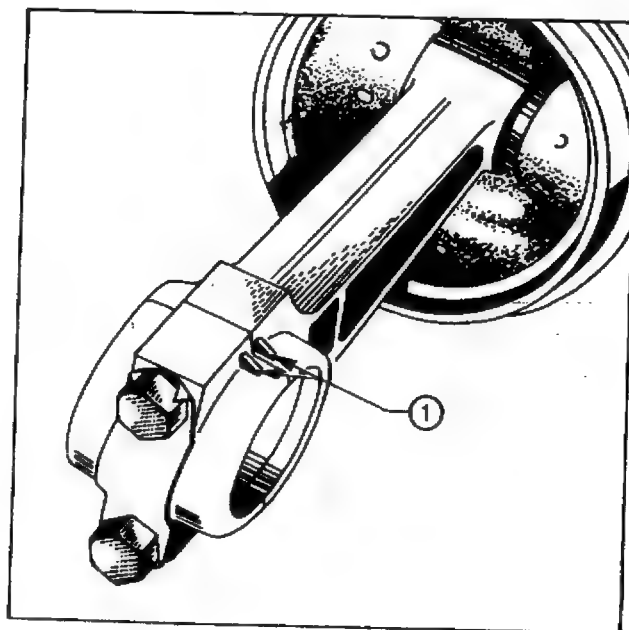

Fig. 12
7. Fit the piston and connecting rod assembly to the cylinder bore. Lubricate the piston assembly and the cylinder bore with engine oil. Position the piston and connecting rod assembly into the cylinder taking note of the marks made prior to dismantling. Compress the piston rings, using a ring squeezer (bore dia. 66.7 mm or 2.625 in) and tap the piston down the cylinder bore with the crankshaft in the B.D.C. position. Locate the bearing liners in the connecting rod and the connecting rod cap and fit the cap to the connecting rod with the cast mating marks (see Fig. 12) together. Fit the connecting rod locking strip and bolts and tighten the bolts to a torque of 5.1 to 5.4 Nm (0.52 to 0.55 kgf m or 45 to 48 lbf ft). Rotate crankshaft and ensure it does not bind at any point.